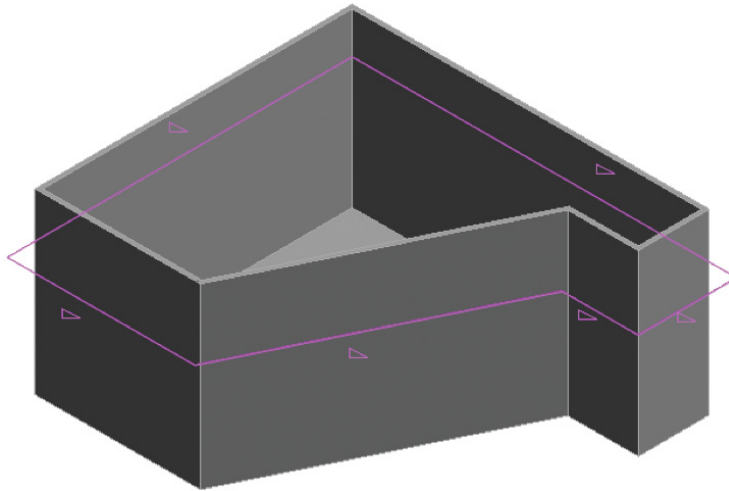

FIGURE 3.21 Offsetting the roof sketch and defining slopes
4. Select the Defines Slope option for all the boundary edges from the Properties palette. Also modify the Slope property for a slope of 9/12. The roof should look like Figure 3.21.